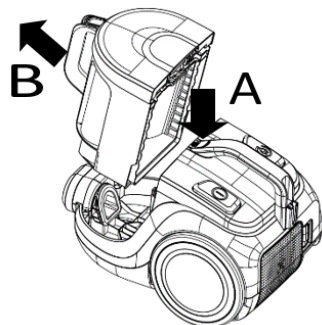

Fig. 7
1. As in Fig.7, hold the dust canister and handle and push the release button (A).
2. As in Fig.7, take the dust canister out of the machine (B).